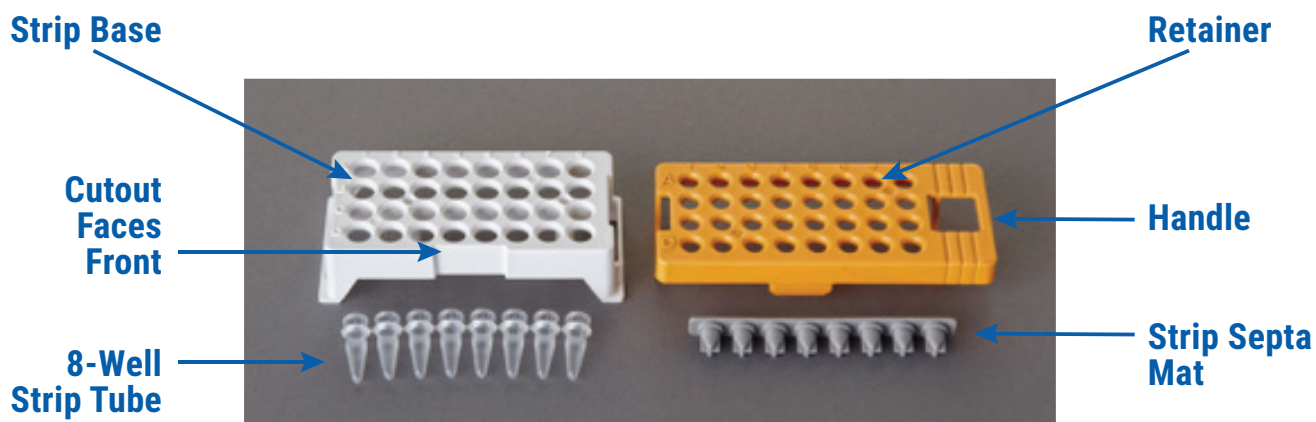

Figure 15. Assembling the Spectrum Compact Strip Base and Retainer.
- Place the 8-well strip tube into the strip base in Lane A with the samples in positions 1–4 (Figure 15).